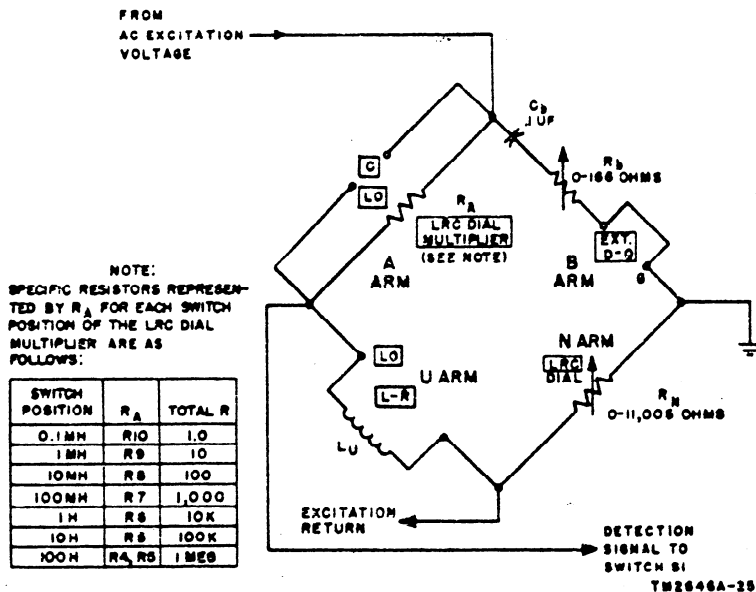

Figure 23. Hay inductance bridge circuit, simplified schematic diagram.
e. *Hay Inductance Bridge Circuit* (fig. 23). For measurement of inductors having a storage factor ( $Q$ ) between 9.5 and 1,000, the circuit selector switch is set in the L and  $Q \times 100$  position and the rest of the bridge controls are adjusted as explained in para-